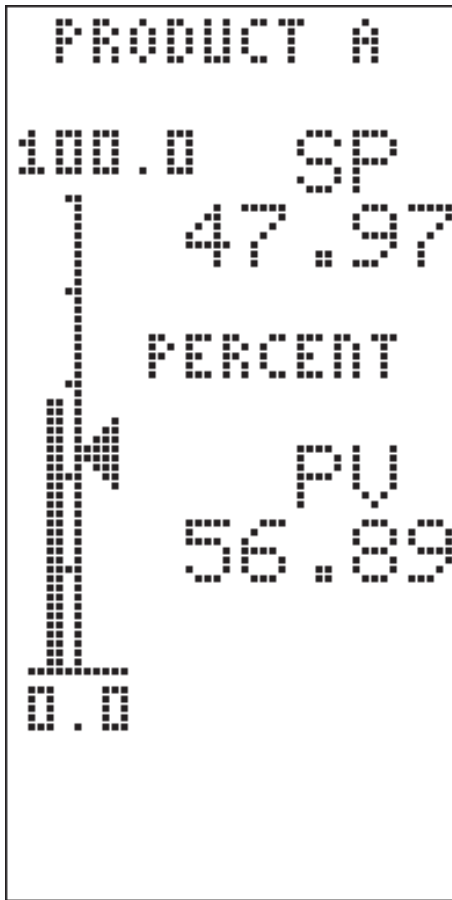

Figure 4. Analog Input Indicator with Setpoint display
Figure 4 (Channels 1 & 2) Each display has a vertical bar graph for analog input process variable (PV) indication and a setpoint (SP) arrowhead for analog output manual control indication. The vertical bar graph appears on the left side, parallel to a 50 segment vertical axis. The setpoint arrowhead appears on the right side of the vertical axis. The vertical axis has a numeric range (zero and span) an input channel tag name appears in the upper left corner of the display. A digital readout for the analog input measured units tagname in the middle of the display and beneath it a digital readout appears under the letters PV.